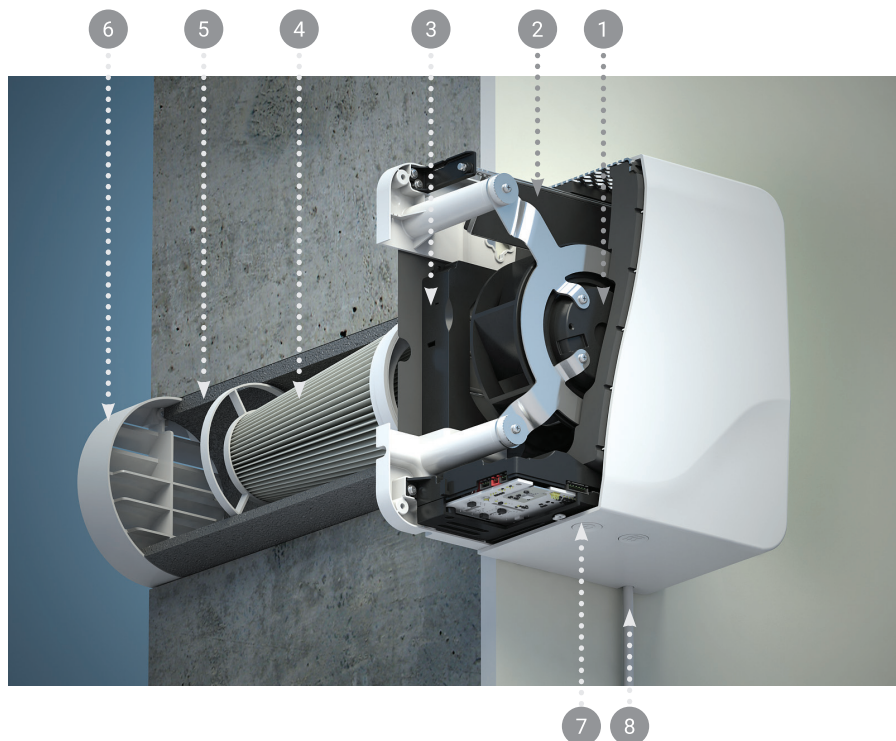

Figure 5.1. System composition:
The device, when installed in accordance with the requirements of Section 6.2 of this User Manual, constitutes a compact ventilation system. The appearance and composition of the system is shown in Figure 5.1.
The device is to be mounted⁶ to a wall with a drilled air duct leading to the outside. The air is drawn into the room through the air duct by a fan (Figure 5.1, item 1). The air duct is protected by a heat insulating tube (Figure 5.1, item 5), and the downward slope of the channel (inclined towards the street) prevents rainwater from ingress into the device. The Tion outflow air grid (Figure 5.1, item 6) is installed on the air duct from outside.
A high-efficiency channel filter of E11 class⁷ according to Russian state standard GOST R EN 1822-1-2010 (Figure 5.1, item 4) is installed in the air duct. The air passing through the filter is cleansed of the finest dust particles as well as allergens, bacteria, viruses and mold spores.
A flap (Figure 5.1, item 2) is located under the air outlet grid. It protects from air ingress into the room, if the device is either turned off or operating in the "Standby" mode (Section 5.3.4).
If necessary, the inlet air can be heated⁸ up by a heater unit (Figure 5.1, item 3).
The device is operated via the control buttons on the device (Figure 5.1, item 7) or via the Tion Remote mobile application (hereinafter referred to as the application; Section 5.4).